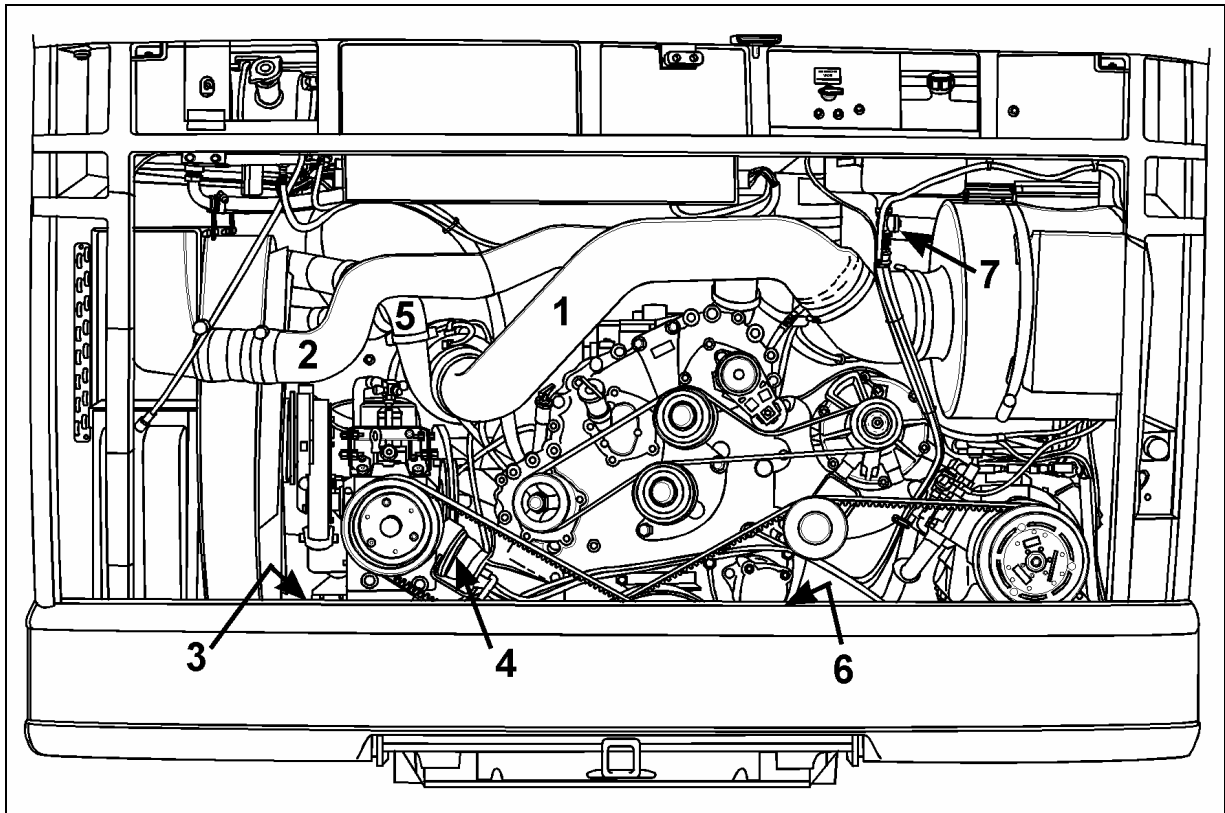

FIGURE 16: ENGINE COMPARTMENT
6. Disconnect and remove the engine-air intake duct mounted between air cleaner housing and turbocharger inlet (1, Fig. 16).
7. Disconnect and remove the air intake duct mounted between the air cooler outlet and the engine intake (2, Fig. 16).
8. Disconnect and remove section of coolant pipe assembly mounted between the radiator outlet and the water pump inlet (3, Fig. 16).
11. Dismantle the air bellows from the upper bracket of the fan-drive assembly tensioner. Remove the upper bracket (4, Fig. 16).
13. Disconnect and remove the air intake duct mounted between the turbocharger outlet and the air cooler inlet (5, Fig. 16).
20. Disconnect the oil delivery hose from the valve located at the reserve tank drain (7, Fig. 16).
21. Disconnect the power steering pump supply and discharge hoses. Cap hose openings immediately to limit fluid loss. Remove retaining clips from cradle (6, Fig. 16).